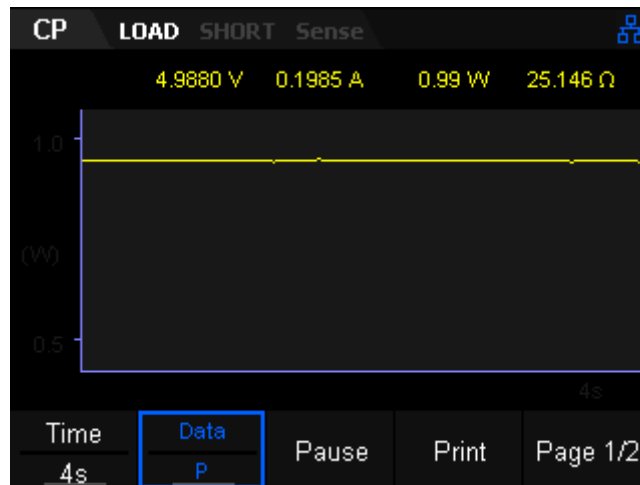

Figure 2-13 Waveform display interface of CP Mode
6. Press the **Display** key to enter the waveform display interface, as shown in Figure 2-13. By default, the power waveform is displayed. When the input voltage changes, the load will sink a constant power. Press the **Display** key again to exit the waveform